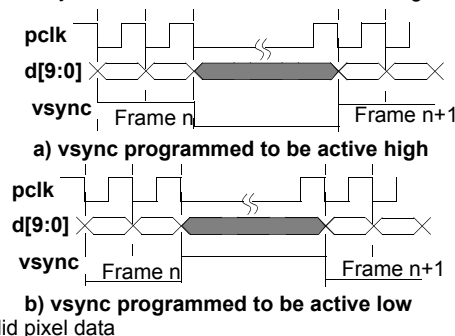

Figure 36. *vsync* in Level Mode
- Level mode should be used when the pixel clock, *pclk*, is programmed to operate in *free running mode*. In level mode the *vsync* output pin will go to the specified level (high or low) at the start of each frame and remain at that level until the last pixel of that row in the frame is placed on *d[9:0]* as shown in Figure 36. The *vsync* level is always synchronized to the active edge of *pclk*. The *vsync* pin is put into level mode by setting the *VsyncMode* bit of the *DVBUSCONFIG1* register to a logic 0. The active level of the *vsync* pulse is programmed using the *VsyncPol* bit of the *DVBUSCONFIG1* register.